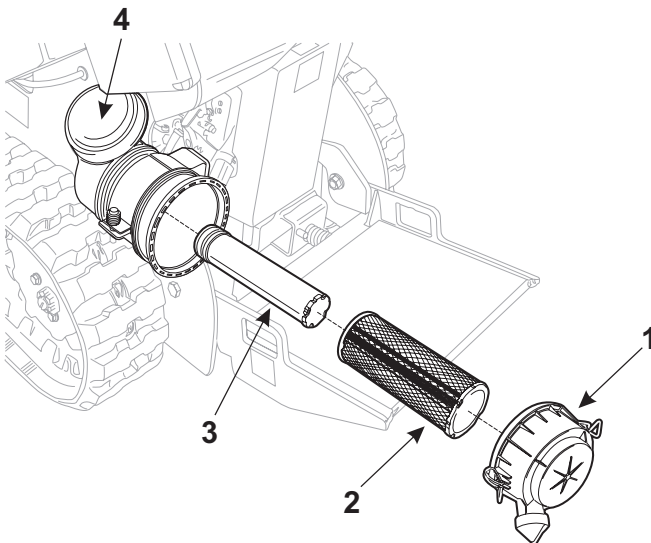

Figure 4-20 Air Filter Assembly
3. Check air filter and replace outer paper element (Item 2, **Figure 4-20**).
4. Replace the outer paper element* (Item 2, **Figure 4-20**) and check inner element* (Item 3, **Figure 4-20**).
- a. Unhook the two retaining clips and remove the end cap (Item 1, **Figure 4-20**) from the air cleaner housing (Item 4, **Figure 4-20**).
- b. Pull the outer air cleaner element (Item 2, **Figure 4-20**) out of the housing.
- i. Reinstall the end cap (Item 1, **Figure 4-20**) so the dust ejector valve is down and secure the end cap with the two retaining clips.